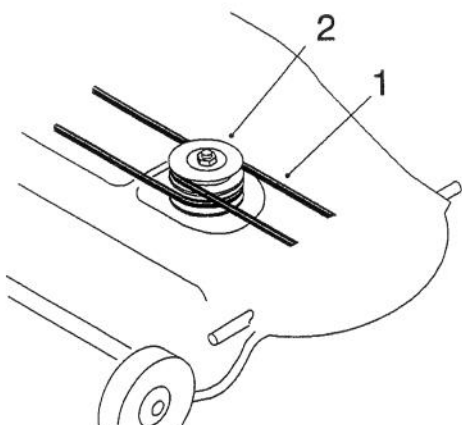

Figure 12
2. Install the blower belt onto the upper pulley, leaving the other end loose (Fig. 12).